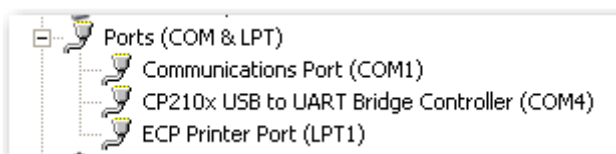

Figure A-1 • Determining the USB Serial Port's COM Port
7. Determine the COM port assigned to the USB interface. Open the Windows Control Panel and double-click the **System** icon. Click the **Hardware** tab and click the **Device Manager** button. Expand the **Ports (Com & LPT)** item in the Device Manager. Look for the CP2102 USB to UART Bridge Controller in the list of ports. The COM port in parentheses identifies the COM port assigned to this device (Figure A-1). If you do not see CP2102, you need to install the CP210x_Drivers driver. Refer to the "Installing the M1AFS-ADV-DEV-KIT Board USB Serial Driver" section on page C-31 for more information.